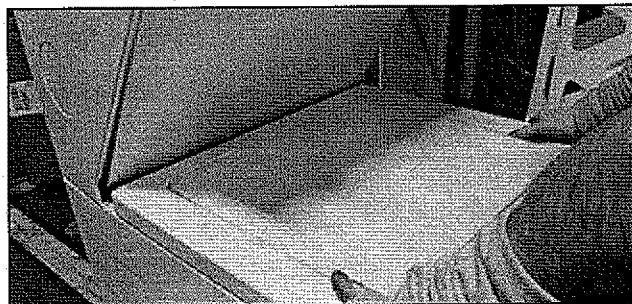

FIGURE 3
4. Slide the top forward gently. Lift the back a little to make sure you don't catch the red retainer clips. (Ignore that the back splash panel is still installed in the following picture. It should have already been removed in step 2.). See *Figure 3*.